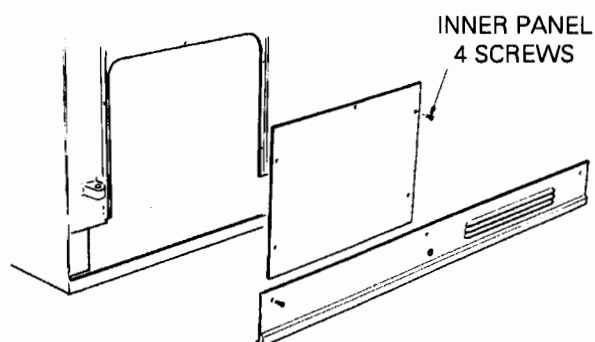

FIG. 4
- SEE FIG. 4
2. Remove (5) inner panel securing screws and remove panel.
3. Remove the (3) plinth securing screws and remove plinth.